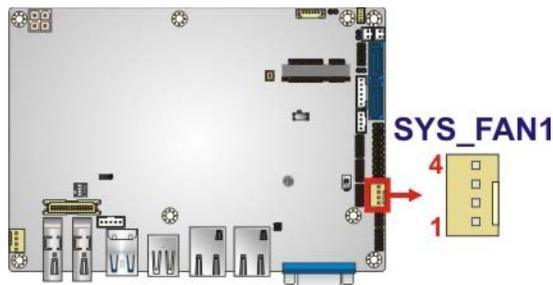

Figure 3-7: System Fan Connector Location
- CN Location:** See **Figure 3-7**